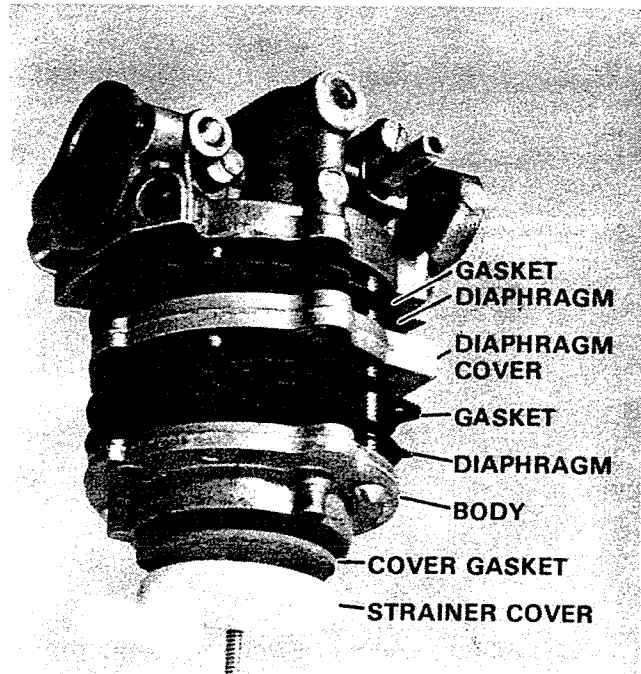

Figure 21. Assembling Carburetor.
10. Place gasket and upper diaphragm on body, note position of three (3) locating pins and place large diameter of metal disc toward body. Figure 21.
11. Place cover (middle section) over diaphragm. Figure 21.
12. Place gasket on middle section and lay diaphragm on it. Install lower section (fuel pump body) and secure assembly with screws. Figure 21.
13. Place strainer and gasket in body. Place strainer cover in cavity and secure. Figure 21.